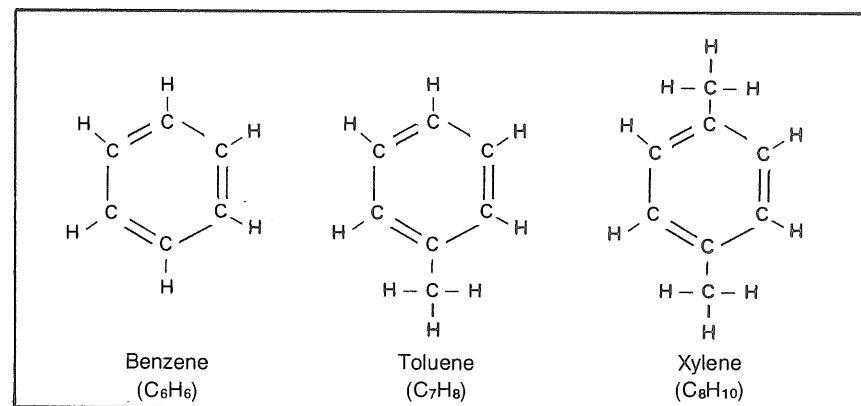

Fig. 5-8 —Aromatics
*Aromatics* are another exception to the valence rules. Take the ring compound cyclohexane. Each carbon has two hydrogens attached and is attached to two other carbons. If you removed one hydrogen from each carbon, you could bring the valence rules back to being satisfied by putting in some double bonds between the carbons. A double bond between *every other* carbon will do it (Fig. 5-8). The resulting molecule is  $\text{C}_6\text{H}_6$ , *benzene*. Saying that every other bond around the benzene ring is a double bond is a gross simplification. The real description has to do with a resonating structure and hopping bonds.